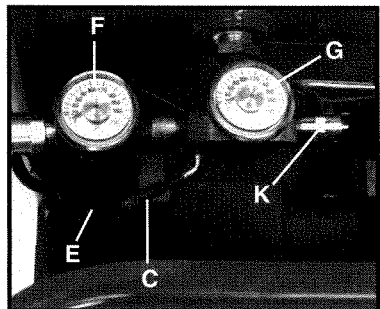

Fig. 3
ON/AUTO - OFF Switch (C) Fig. 3: Turn this switch ON to provide power to the automatic pressure switch and OFF to remove power at the end of each use.
Regulator (E) Fig. 3: The air pressure coming from the air tank is controlled by the regulator. Turn the regulator knob clockwise to increase pressure and counterclockwise to decrease pressure. To avoid minor readjustment after making a change in pressure setting, always approach the desired pressure from a lower pressure. When reducing from a higher to a lower setting, first reduce to pressure less than that desired, then bring it up to the desired pressure. Depending on the air requirements of each particular accessory, the outlet regulated air pressure may have to be adjusted while operating the accessory.
Outlet Pressure Gauge (F) Fig. 3: The outlet pressure gauge indicates the air pressure available at the outlet side of the regulator. This pressure is controlled by the regulator and is always less than or equal to the tank pressure. See "Operating Procedures".
Tank Pressure Gauge (G) Fig. 3: The tank pressure gauge indicates the reserve air pressure in the tank.
Safety Valve (K) Fig. 3: If the pressure switch does not shut off the air compressor at its cutout pressure setting, the safety valve will protect against high pressure by "popping out" at its factory set pressure (slightly higher than the pressure switch cut-out setting).